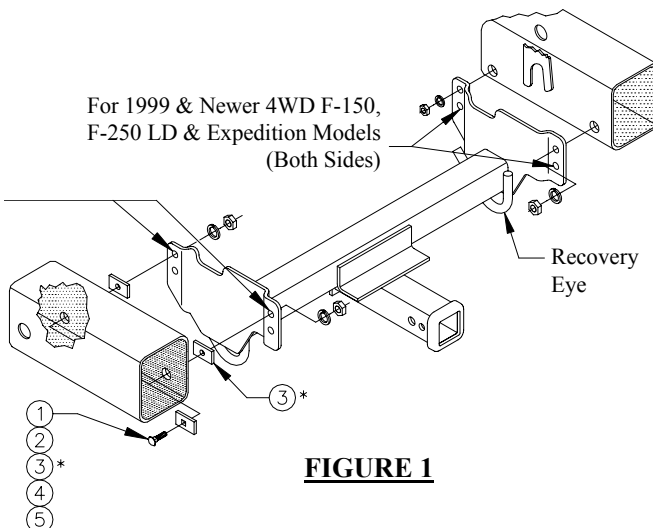

FIGURE 1
①	Qty. (4)	Carriage Bolt, 1/2"-13 x 1-3/4"	④	Qty. (4)	Lock Washer, 1/2"
②	Qty. (4)	Spacer, 1-1/2" x 3" x 1/4", Square Hole	⑤	Qty. (4)	Hex Nut, 1/2"
③	Qty. (4)	Spacer, 1-1/2" x 3" x 1/4", Round Hole	⑥	Qty. (2)	Pull Wire
- Feed carriage bolts and blocks through frame as shown in Figure 1 using pull wire.